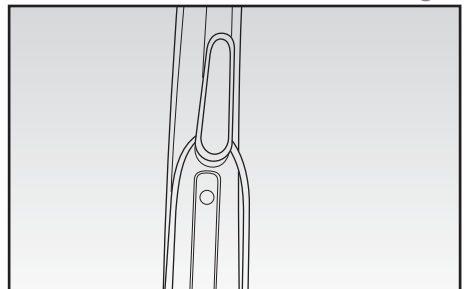

Fig. 10
- Reassemble the appliance and store it using the apposite rear cord winder (N) - Fig. 10.